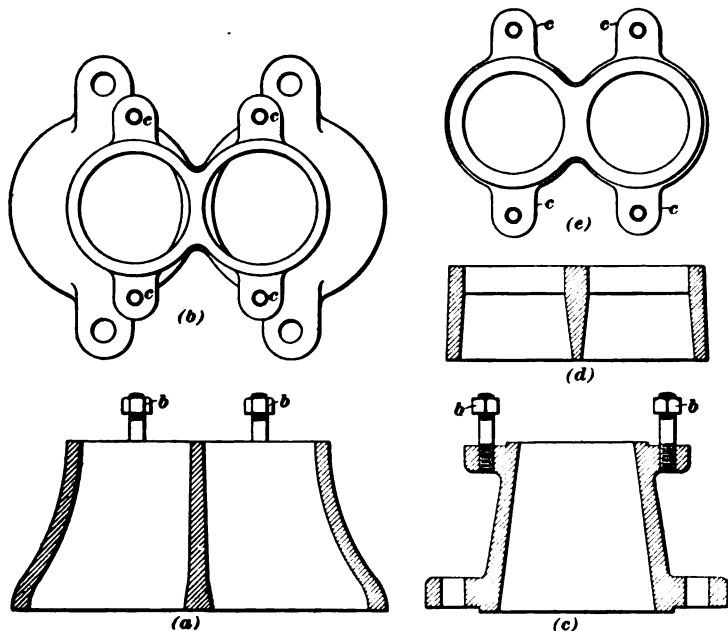

FIG. 19.
**27. Double Exhaust Pipe.**—In Fig. 19 are three views, (a), (b), and (c), of the exhaust pipe used in connection with
exhaust nozzle. The nozzles are made separate from the exhaust pipe, so that the size can readily be changed, if desired; they are bolted to the pipe by means of the lugs *c* and bolts *b*. The passage in the exhaust pipe is decreased in size, at the nozzle only, so as to increase the velocity of the steam as it passes out of the nozzle, which therefore creates a sharper blast and a greater draft. The pipe shown in Fig. 19 is known as a **double exhaust pipe**; it consists virtually of two pipes in one casting, the exhaust steam from the one cylinder remaining separate from that of the other throughout the passage to
the stack. Double exhaust pipes are also used with extension fronts, and are then longer than that shown in Fig. 19.